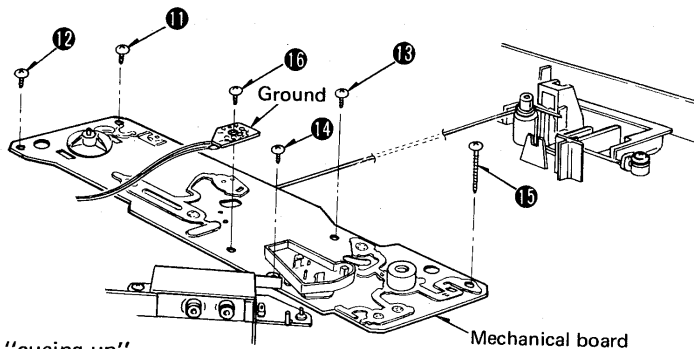

Fig. 5
• How to remove the mechanical board (Fig. 5)
2. Remove the 5 setscrews [Fig. 5: ⑪ ~ ⑮] of the mechanical board and output terminal shielding plate, and the setscrew ⑯ of the Ground terminal.